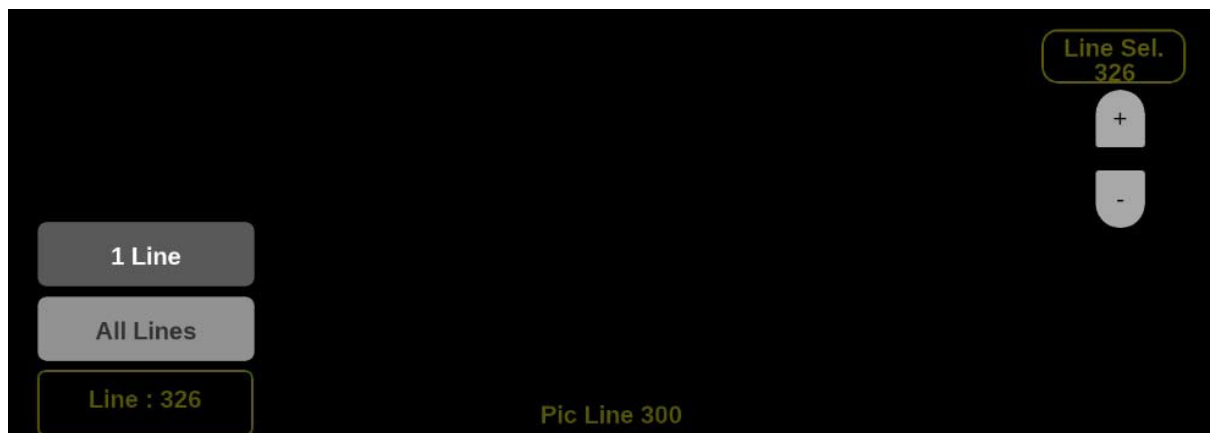

Figure 211: Diamond on-screen tools – Line Select
If **1 Line** is selected then the display will only show results for the selected line in the picture. The line can be selected using the on-screen tools. (See Line Select function.) Or the line can be selected directly on the Picture. (See Figure 211.)
1. Select the **Lines** button at the bottom of the application. (See Figure 211.)